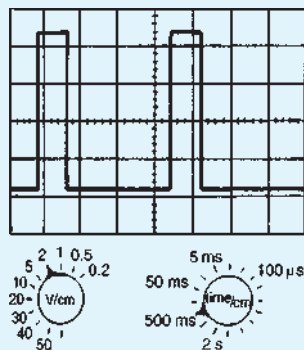

Figure 10.22
- For the pulse waveform shown in Fig. 10.22, find (a) its frequency, (b) the magnitude of the pulse voltage.